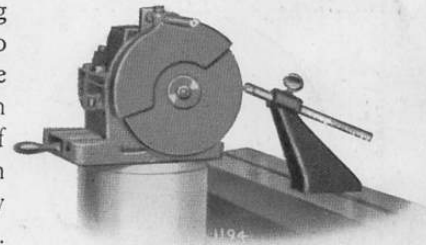

Fig. 4
**Truing the Wheel.** The grinding wheel must be trued occasionally to obtain a good finish on the clearance angles of the cutter, for a good finish makes a keen cutting edge. A piece of carborundum stick or part of a broken grinding wheel may be used for ordinary truing of the dish and cup wheels. For accurate truing, as required for cylindrical and surface grinding, the wheel truing attachment shown in Fig. 4 should be used. When truing the wheel with the attachment use the front hand control to give the table a uniform motion, because the diamond will produce a much better surface on the wheel if it is moved uniformly.